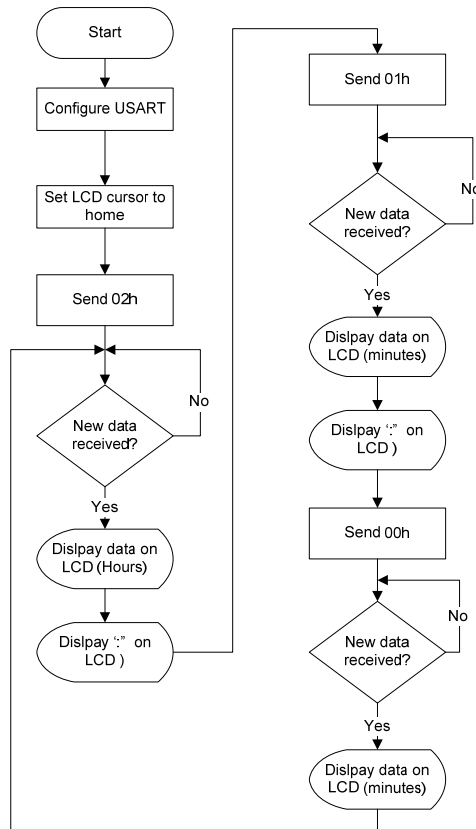

Figure 8: Flowchart to read the time from the DS1305.
4. Write a program to ask the DS1305 for its current time and display it on the LCD in the format HH:MM:SS. See Figure 8 suggest a flowchart for completing this task. Note that this exercise did not set the time (and date) in the chip and therefore the read time will correspond to the time elapsed after the last power-up.